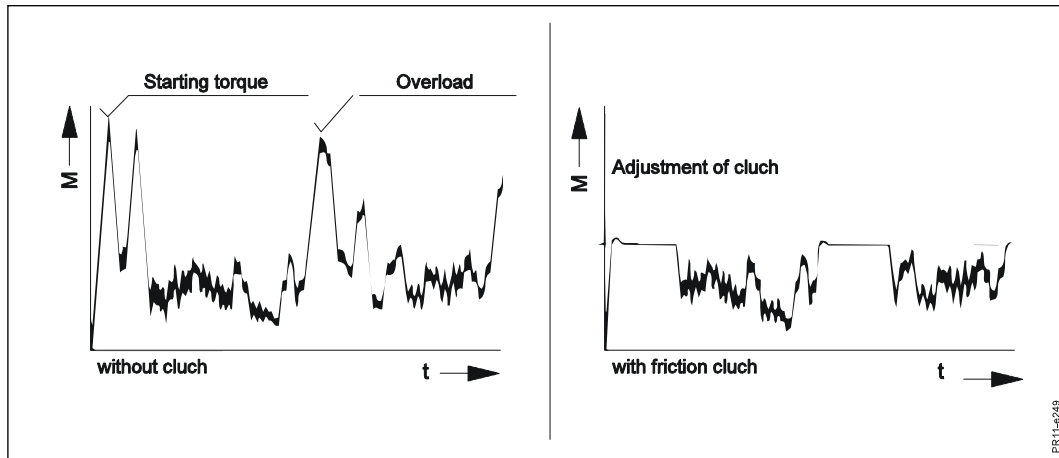

Fig. 5-1
**Fig. 5-1** In order to ensure a long life for your tractor and machine the machine is delivered with **friction clutch** on the front PTO drive shaft. The figure illustrates how the clutch protects the transmission against high torque peaks and at the same time is capable of keeping the torque up while it slips.